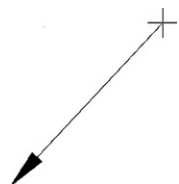

FIGURE 6.14
- Step 3.** Move your mouse at a 45° angle away from the first point and click again at a reasonable distance away. You create the *leader line and arrowhead* seen in Figure 6.14.